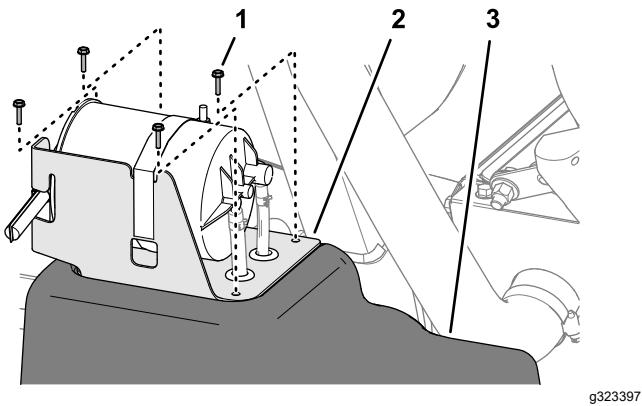

Figure 126
5. Align the holes in the carbon-canister bracket with the holes in the fuel tank (Figure 126).
6. Assemble the bracket to the tank (Figure 126) with the 4 screws (#10 x 3/4 inch).